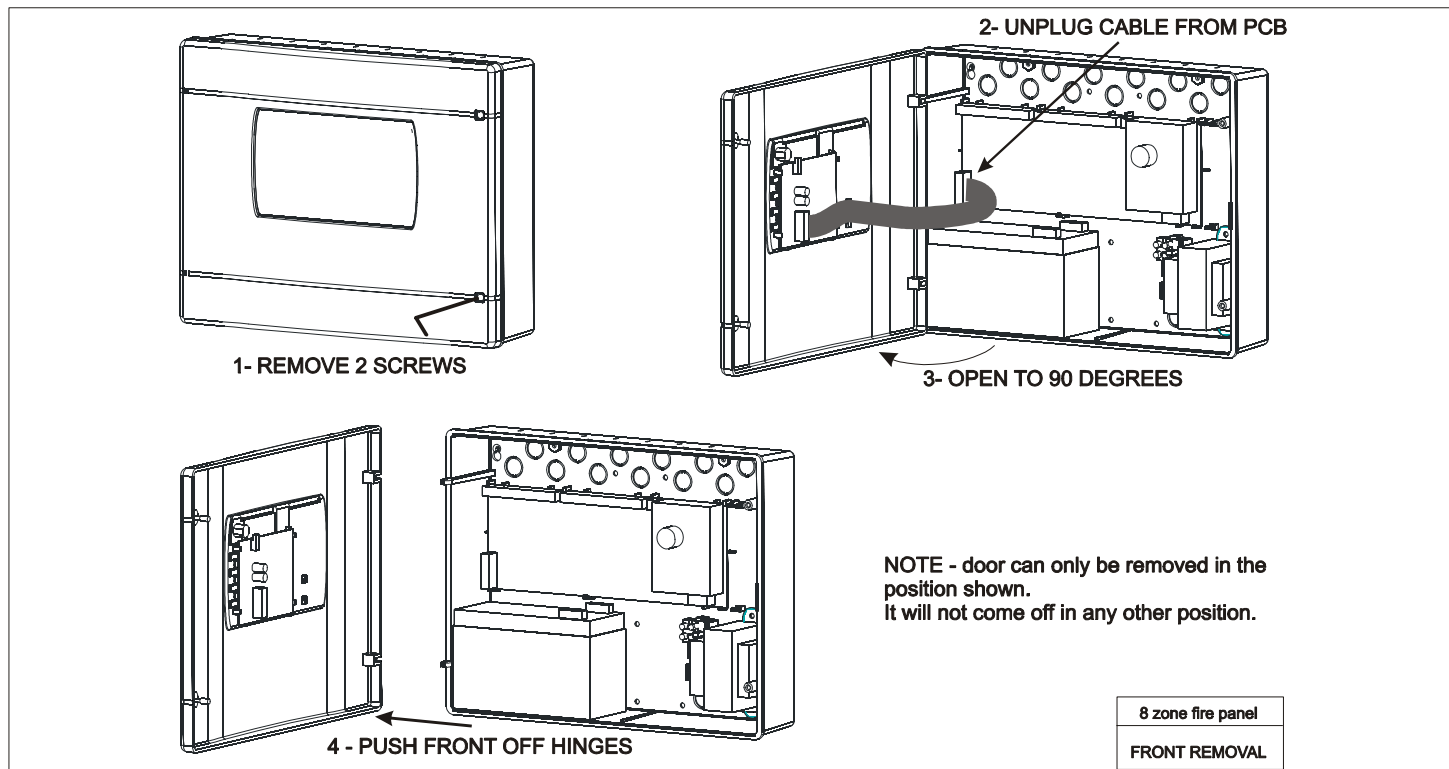

Figure 5. Front Door Removal
- A) To remove the front – Please refer to Figure 5. Remove the 2 screws located on the front of the panel, open the door and unplug the ribbon cable from the display pcb, by pulling the plug from the main pcb. Note- do not pull on the wires. Open the door to the 90 degrees position, and push the door off the hinges. NOTE – the door cannot be removed in any other position. Store the panel front face down in the packing box taking care of the pcb and ribbon cable on the back.